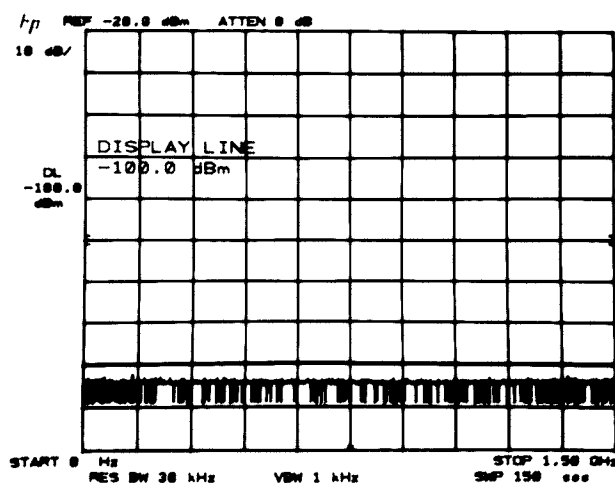

Figure 4-35. Residual Responses Measurement
- Press TRACE A **CLEAR WRITE**, SWEEP **SINGLE**. Wait for completion of the sweep (see Figure 4-35).